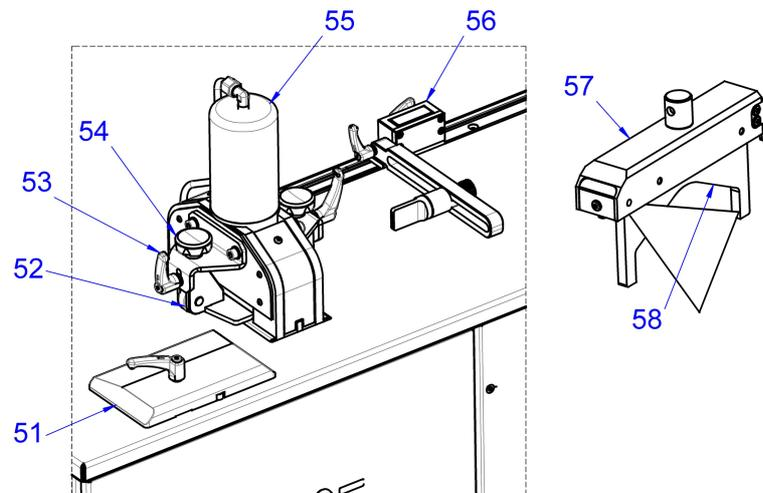

Fig. 9: Cutting busbars
- Release the clamping lever on the side guide plate (fig. 9, 51) and adjust the guide plate to the width of the busbar.
- Release the clamping screws (fig. 9, 54) and locking lever (fig. 9, 53) of the two retainers, and adjust the retainer to the material thickness of the workpiece.